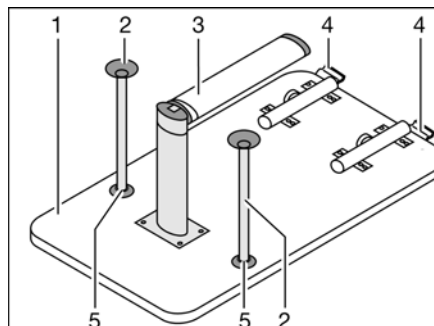

Fig. 92 Bed foundation
- Lift the front of the table-top (Fig. 92,1) by approx. 45°.
- Fold the lower part of the fold-out leg (Fig. 92,3) by 90°. Depending on the model, pull the lower part of the fold-out leg down or push the release knob.
- Press the release knob on the lock (Fig. 92,4).
- Depending on the model, insert both additional support legs (Fig. 92,2) into the holders (Fig. 92,5) on the bottom side of the table.